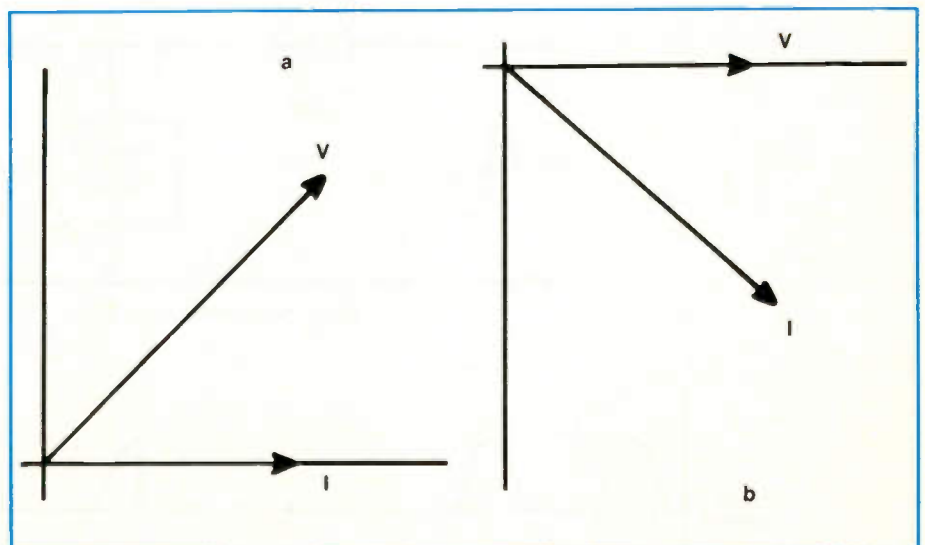

Figure 1.
9. Refer to Figure 1. Which of the phasors is in the correct position to represent a series RC circuit?